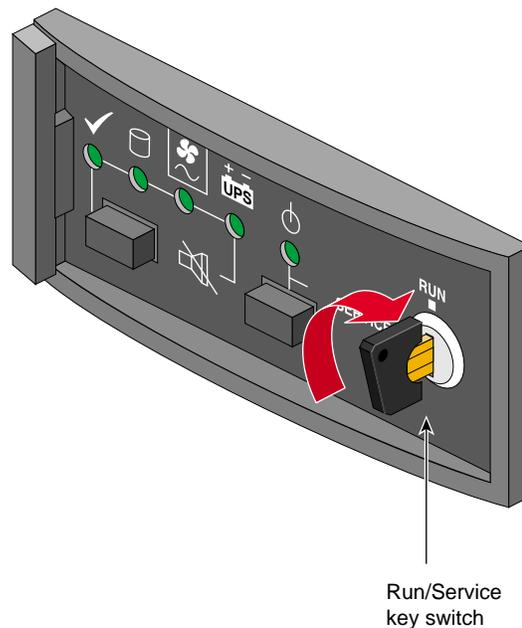

Figure 8-10 ESI/Ops Panel, Rackmount: Powering On
3. For an unattended installation in which the D-brick is required to power on whenever AC power is present, the **RUN/SERVICE** key switch on each ESI/ops panel of each enclosure you are operating should be in the **RUN** position. The key switches are in this position when the D-bricks are shipped (see Figure 8-10).